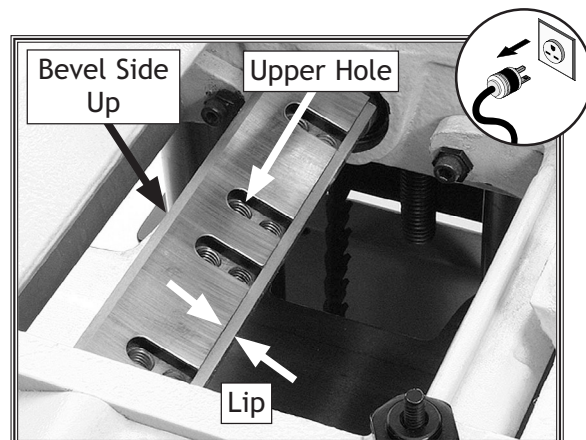

Figure 21. Installing a planer blade.
5. Place the new planer blade against the cutterhead lip with the beveled side of the blade facing up, as shown in **Figure 21**.
6. Line up the holes in the planer blade and the cutterhead, and install a $\frac{3}{8}$ "-16 x 1" knife bolt and $\frac{3}{8}$ " flat washer in each of the upper hole positions shown in **Figure 21**. Make sure to keep the planer blade seated against the cutterhead lip while tightening the bolts.